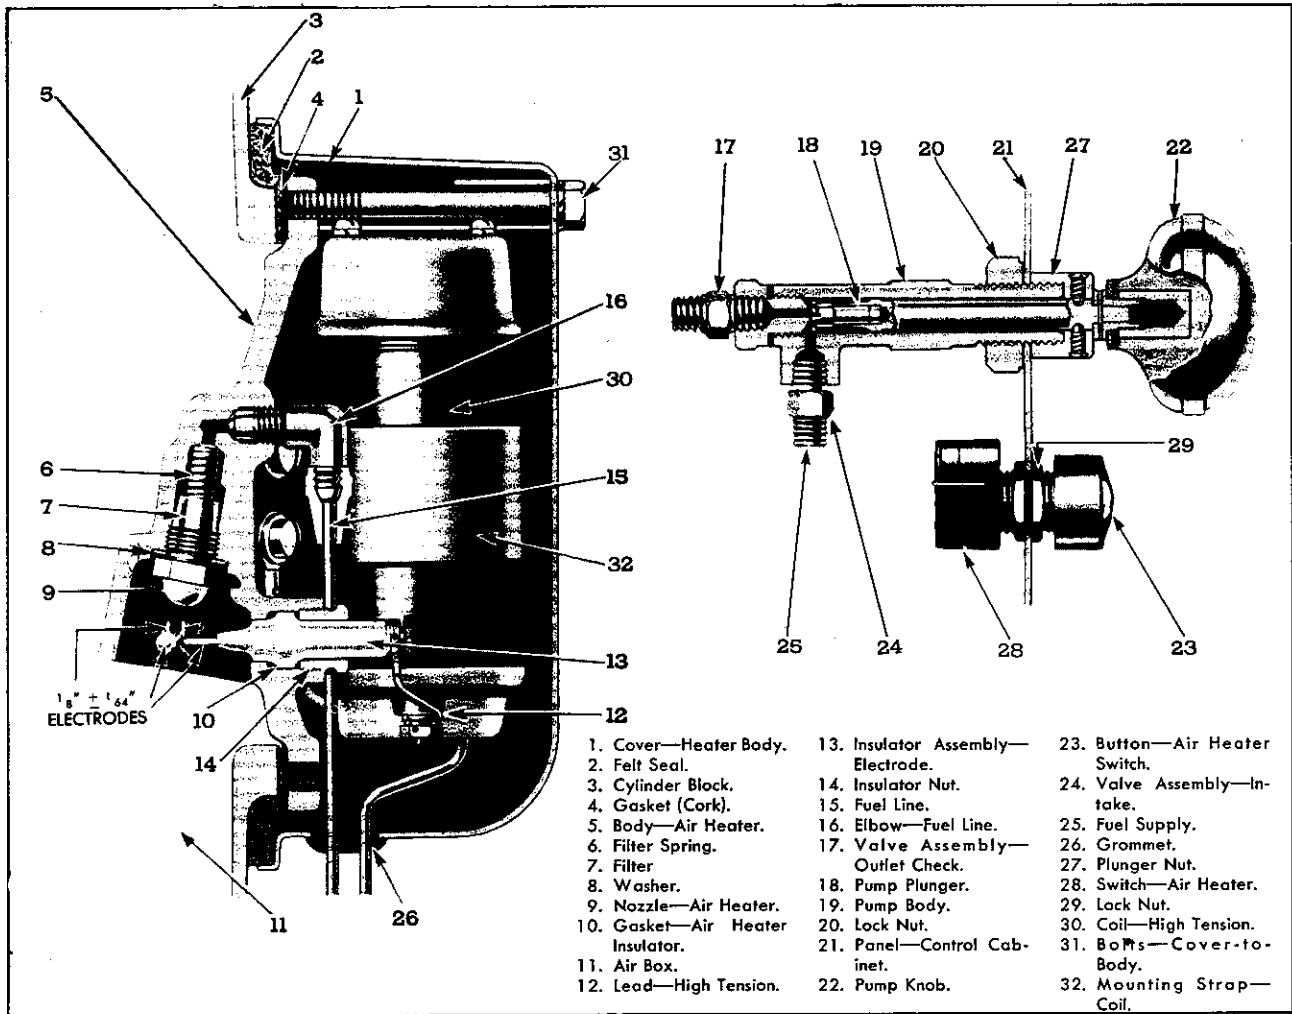

Fig. 2—Air Heater Assembly.
The pump is intended to supply fuel under pressure to the burner unit where the charge is filtered before reaching the discharge nozzle. The suction side of the pump is connected to the outlet of the primary filter, as shown in Fig. 2. The switch is connected in the line between twelve (12) volts of the starting battery and one terminal of the ignition coil on the burner, the other terminal of the coil (primary) being grounded to the engine. (See Fig. 2.)
Installation—The general details of the installation of "Air Heater" are shown in Fig. 2. The units, comprising the burner nozzle, filter, ignition coil and ignition points are mounted on the cylinder block in place of the hand hole cover plates at a central cylinder. The unit comprising the pressure pump and ignition switch is mounted on the instrument panel convenient to the engine controls.
Check gap and, if necessary, reset wire electrode by loosening set screw and moving wire until gap is approximately 1/8". Retighten set screw. If gap is correct, then remove porcelain electrode by removing threaded gland and withdrawing electrode assembly. Care should be taken that small copper gasket under the electrode is not dropped out and lost. Porcelain may be cleaned by washing off in gasoline and scraping or sanding off any carbon accumulation. Reassemble as indicated by Fig. 2.